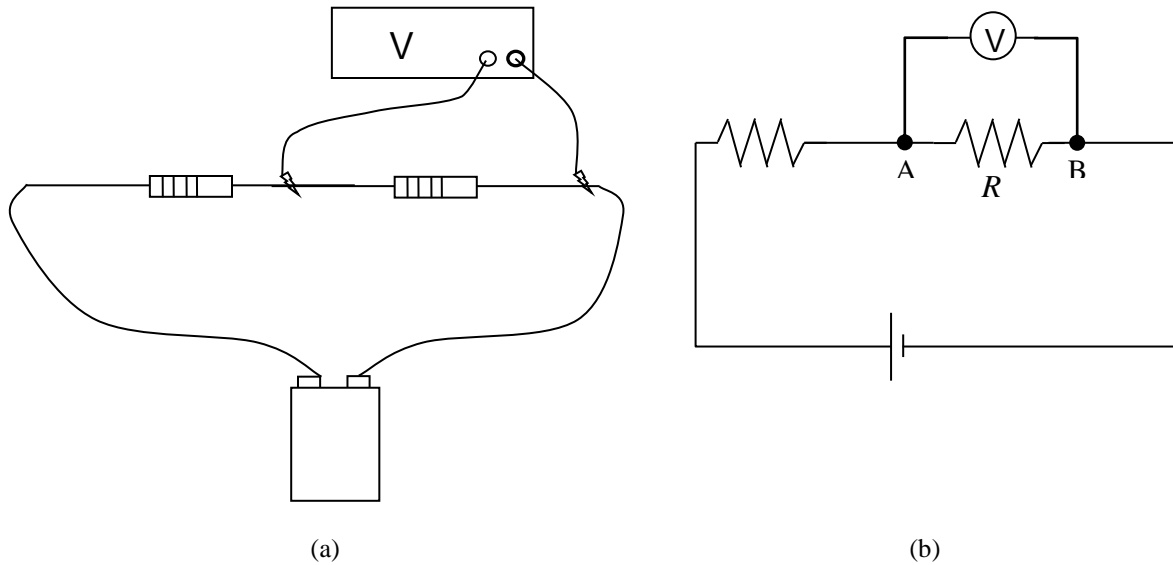

Figure 2. Measuring the voltage,  $V$ , across a resistor  $R$  with a voltmeter (symbol  $V$ ). (a) Representative drawing; (b) the same in circuit symbols.
A voltmeter measures the difference in electrical potential between two different positions in an electrical circuit. Therefore, **to measure the voltage touch two different positions in the circuit with two probes**, as shown in Figure 2. You measure the voltage *across* an electric component or system of components, i.e., the meter is connected in *parallel* with the component.
3. Once the circuit is connected (including both resistors), set the multimeter on volts and measure the voltage across  $R_1$ . (See Figure 2.) Record this value in Table 2. (Don't forget the units!)